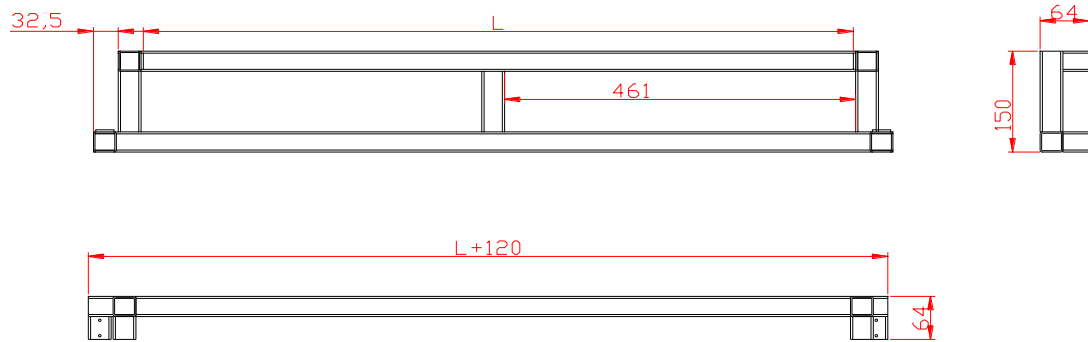

Figure 2
- Calibration tool RF260.90.000 fig.2;